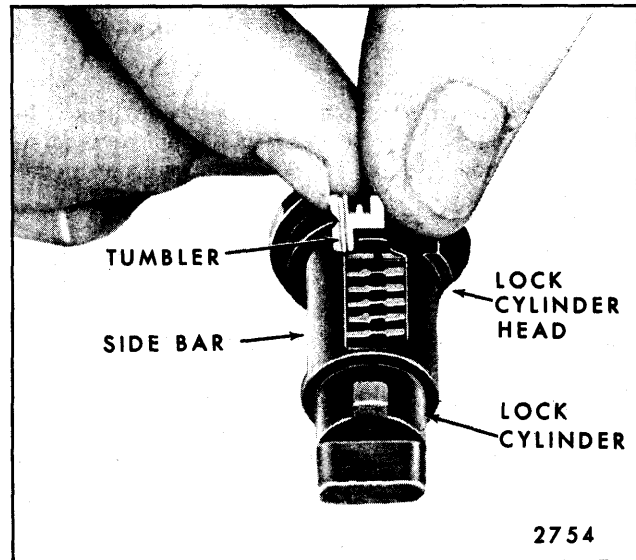

Fig. 1-5—Installing Tumblers
order called for by the code, as shown in Figure 1-5.
3. Pull out side bar with fingers so that tumblers will drop completely into place (Fig. 1-5). Insert one tumbler spring in the space provided above each tumbler.